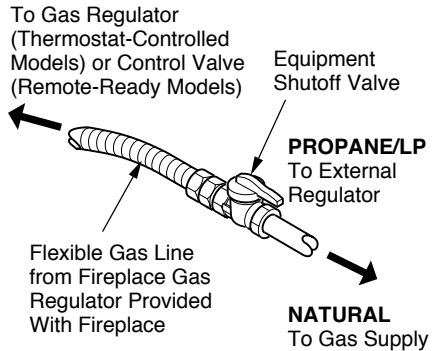

Figure 23 - Attaching Flexible Gas Line to Equipment Shutoff Valve
2. Apply pipe joint sealant lightly to male threads of gas connector attached to flexible gas line/equipment shutoff valve (see Figure 23).